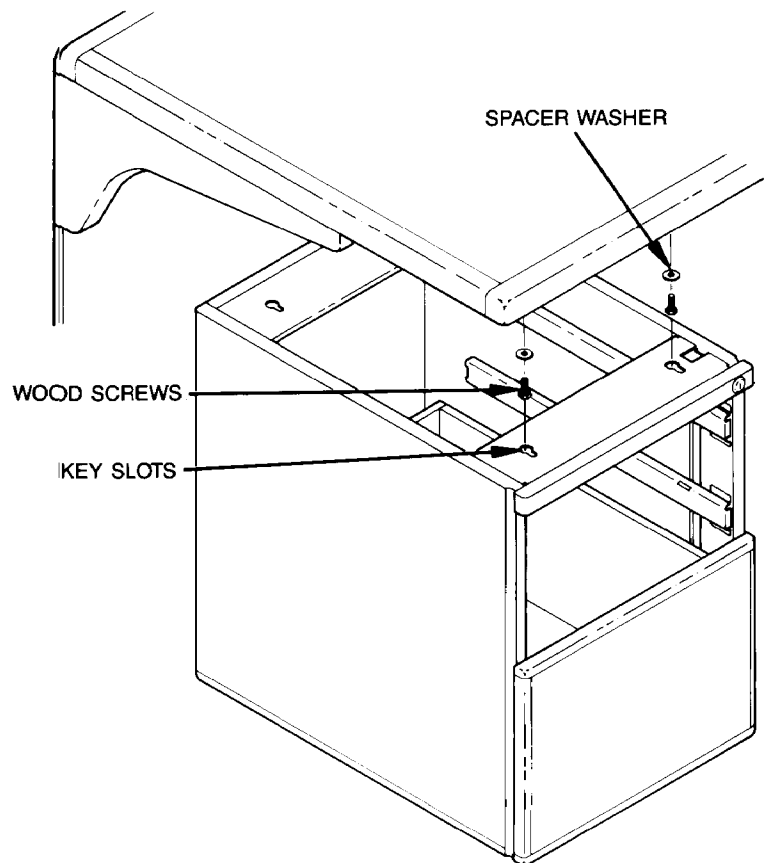

FIG. 2
3. Place one spacer washer on each four (4) wood screws; start screws into work surface leaving a 3/16" gap between work surface and screw head (Fig. 2).
4. Place drawer housing over heads of screws. Slide housing back so screws seat in small portion of key slots (Fig. 2). Make sure housing front is properly aligned and perpendicular to the work surface. Tighten screws.